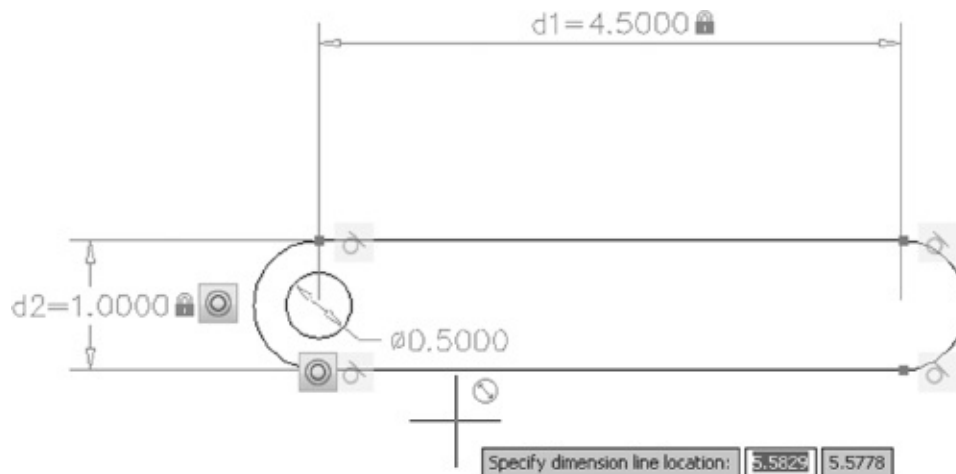

FIGURE 16.16 Adding a Diameter constraint to the circle
4. Click a location inside the drawing to place the constraint, as shown in Figure 16.16.